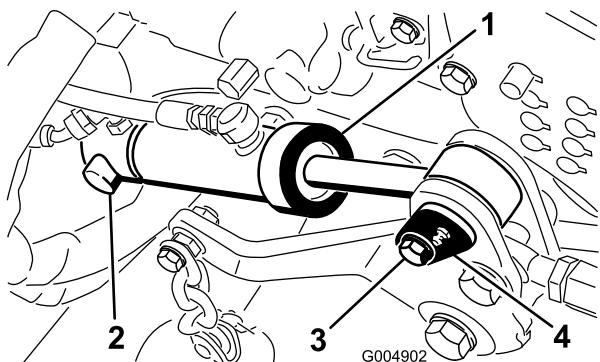
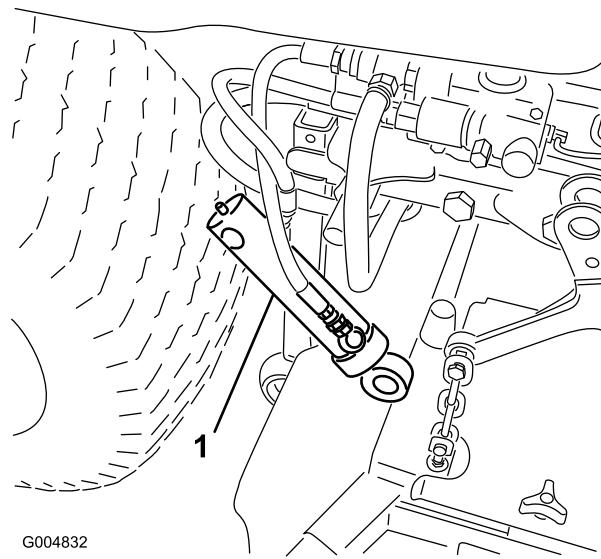

Figure 100
Figure 101
- 9. Remove the retaining ring securing the rear of the deck lift cylinder to the pivot pin (Figure 100).
- 10. Remove the screw securing the front cylinder pivot pin to the mower frame (Figure 100). Remove the cable tie securing the pressure and tank hoses.
- 11. Remove the front pivot pin and slide the cylinder off the rear pin (Figure 100). Let the cylinder hang out of the way on the hoses (Figure 101).